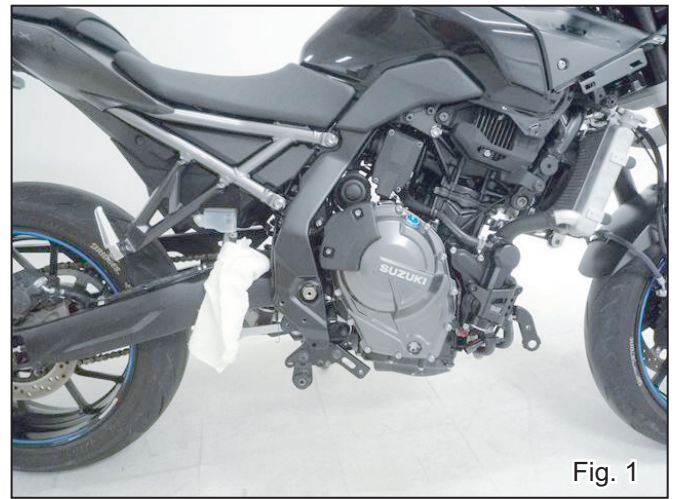

Fig. 1
- 3) According to SUZUKI service manual, remove O2 sensor coupler. Then, remove stock exhaust system from vehicle (See Fig. 1).